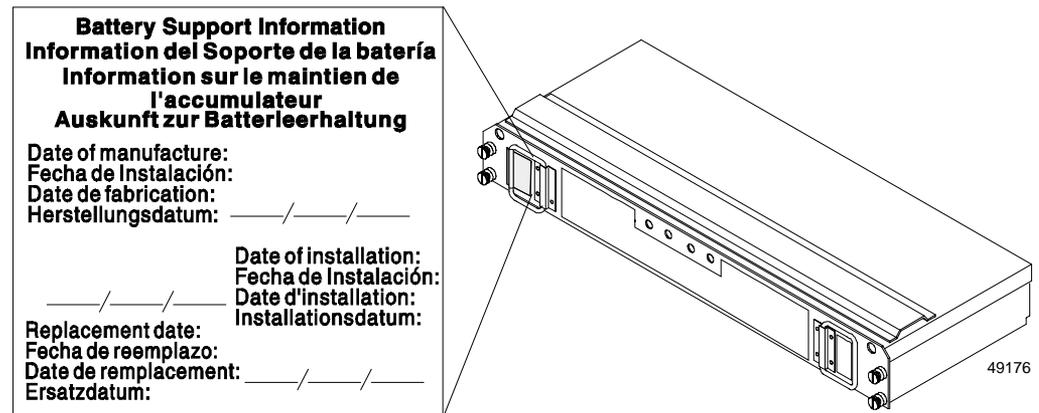

Figure 3-8 Checking the Battery Service Date
2. Check the “Battery Support Information” label (Figure 3-8).